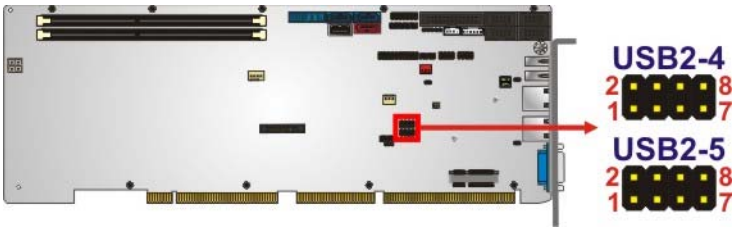

Figure 3-29: USB 2.0 Connector Pinout Locations
- CN Location: See Figure 3-29